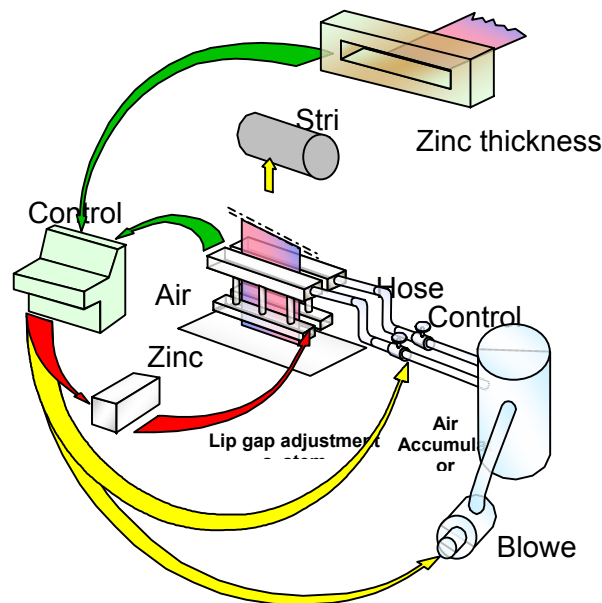

Figure 7. Schematic of VAI Dynamic Air Knife (DAK) System
- ◆ Sophisticated coating knife system with on-line nozzle gap adjustment is now available with the VAI Dynamic Air Knife, DAK (**Figures 7 & 8**). This coating control system is unique ; it enables automatic control of the coating in the transverse as well as the longitudinal direction, by using on-line dynamic lip gap profile adjustment. This offers better zinc coating distribution along and across the strip which results in :